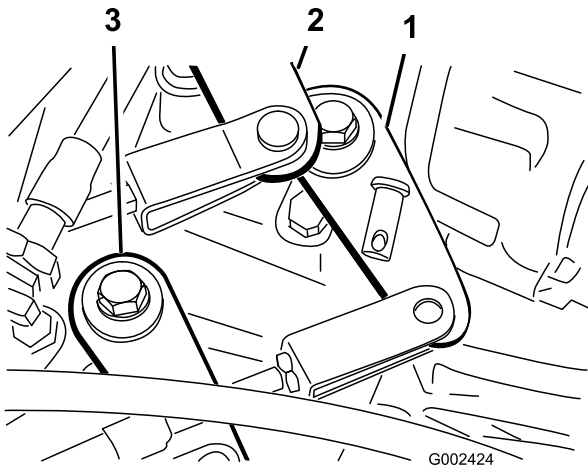

Figure 52
2. Remove the clevis pins securing the shift cables to the transaxle-shift arms (Figure 52).
1. Remove the clevis pin securing the high-to-low cable to the transaxle (Figure 52).